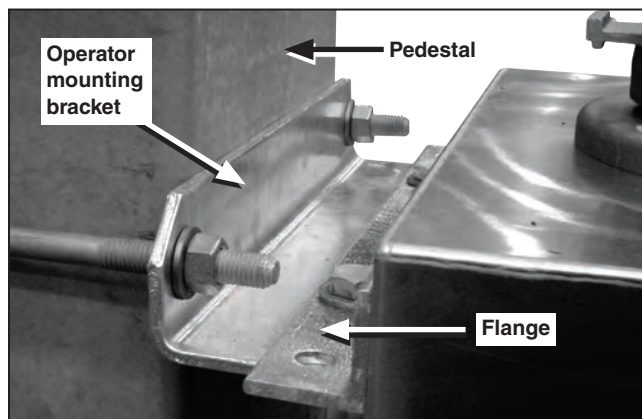

Figure 34. Attach the Mark VI CS-1A Switch Operator flange to the operator mounting brackets.
- STEP 3.** Secure the operator flange to the mounting bracket using two $\frac{5}{8}$ -11 \times 2 $\frac{1}{4}$ -inch galvanized steel hex-head cap screws, flat washers, and self-locking hex nuts furnished. See Figure 34. Do not remove the lifting slings.